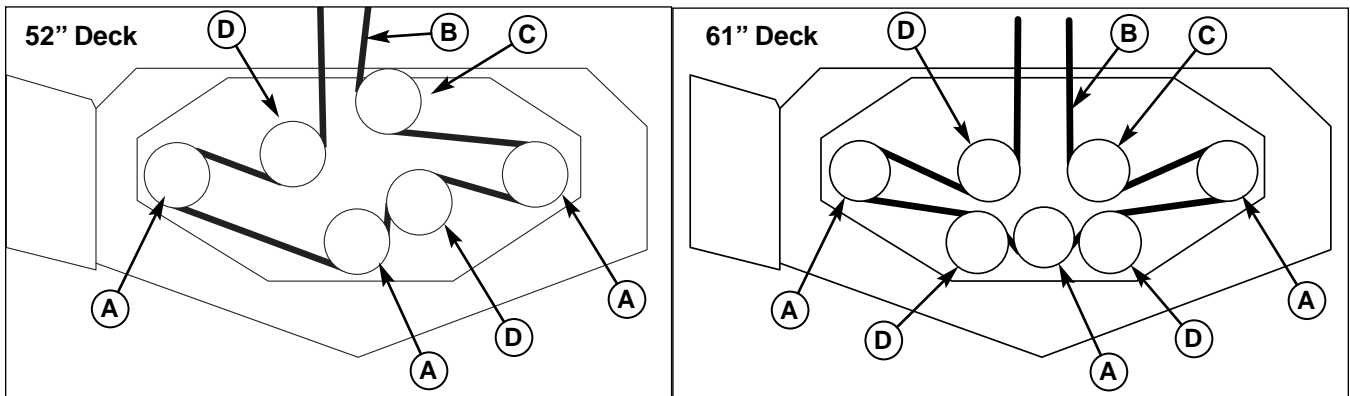

Figure 46. Mower PTO Belt Routing
4. Remove the old belt and replace with a new one. Make sure the V-side of the belt runs in the pulley grooves (Figure 46).